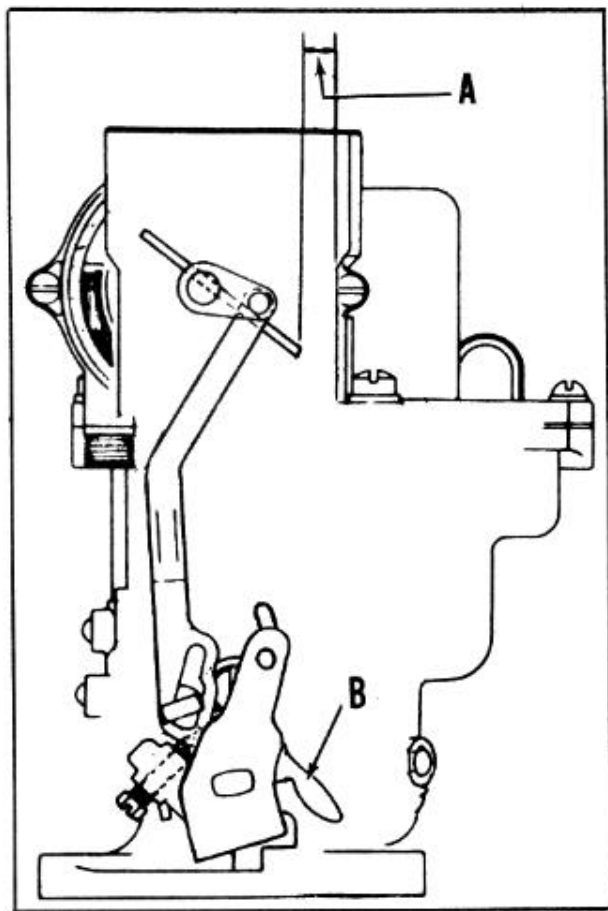

FIGURE 10
2. Open throttle wide open and check between lower edge of choke valve and air horn Figure 10. Clearance should be 7/16"
3. Adjust by bending cam (B) on throttle lever.
4. Clearance between lower edge of choke valve and air horn should be  $5/8$ ", (A), Figure 10.